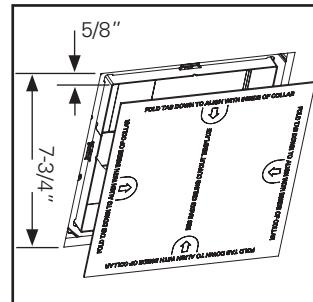
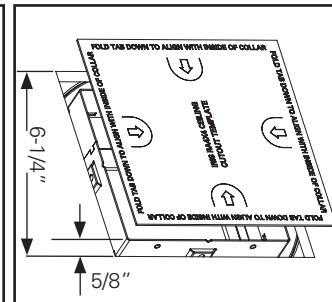

Figure 3.
Figure 4.
- Using the template provided, cut around the collar so that there is a 5/8" gap between the collar and the ceiling – 7-3/4" overall for RA6X6 (Figure 3.); 6-1/2" overall for RA4X4 (Figure 4.). If needed, lower the collar by loosening the collar locking screws, and then hand-tighten the screws to secure the collar in the correct position